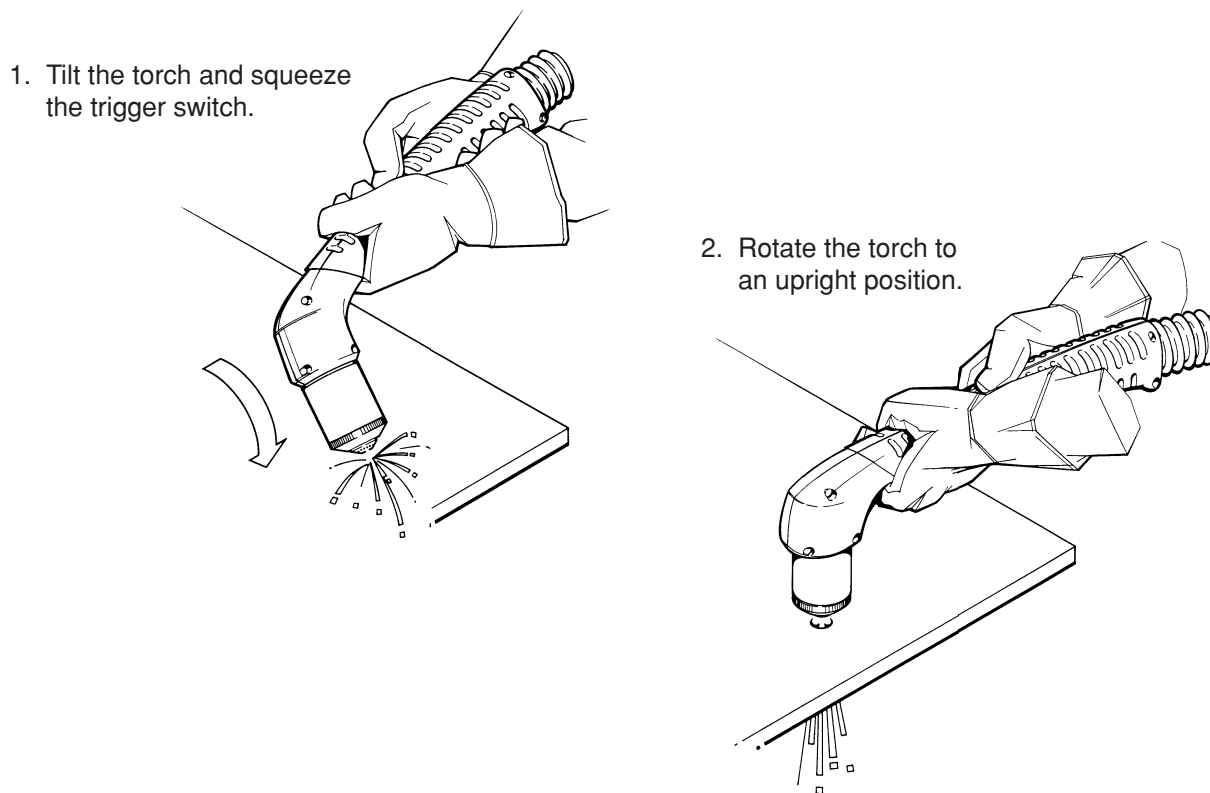

Figure 4-10 Piercing
1. Start by holding the torch so that the nozzle is approximately 1/16 inch away from the workpiece before squeezing the trigger switch. This method maximizes the life of the nozzle. (See Fig. 4-10)